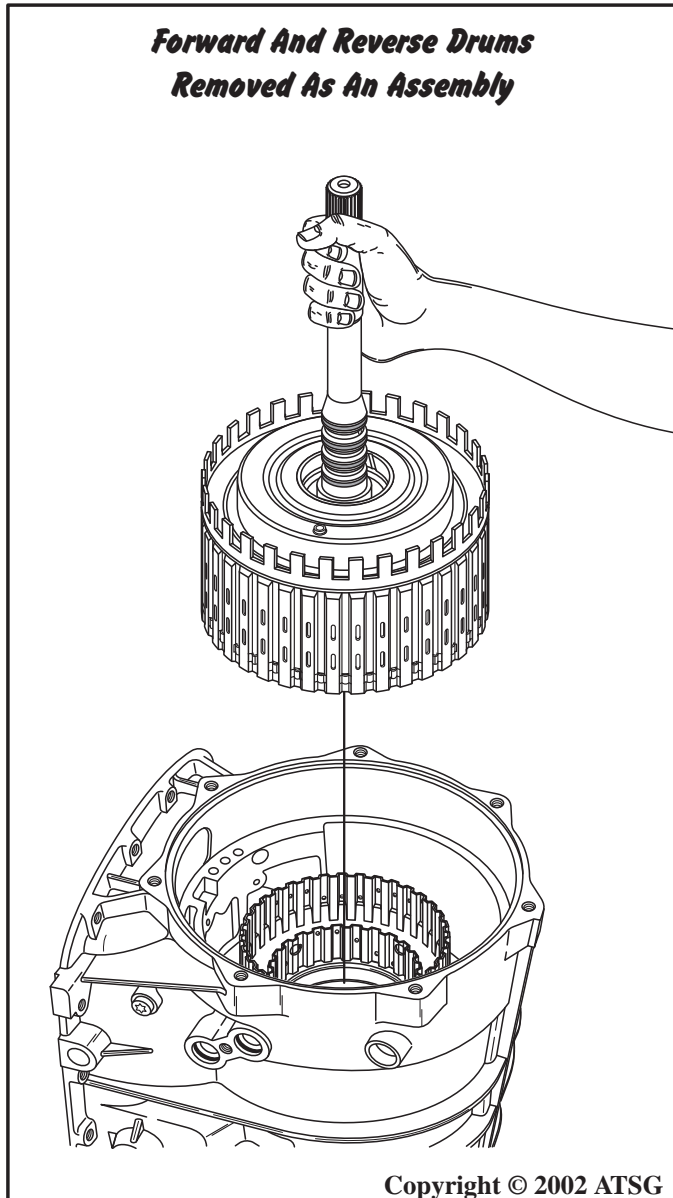

Figure 45
36. Remove the forward clutch housing and reverse clutch housing as an assembly by grasping the turbine shaft and lifting straight up, as shown in Figure 45.